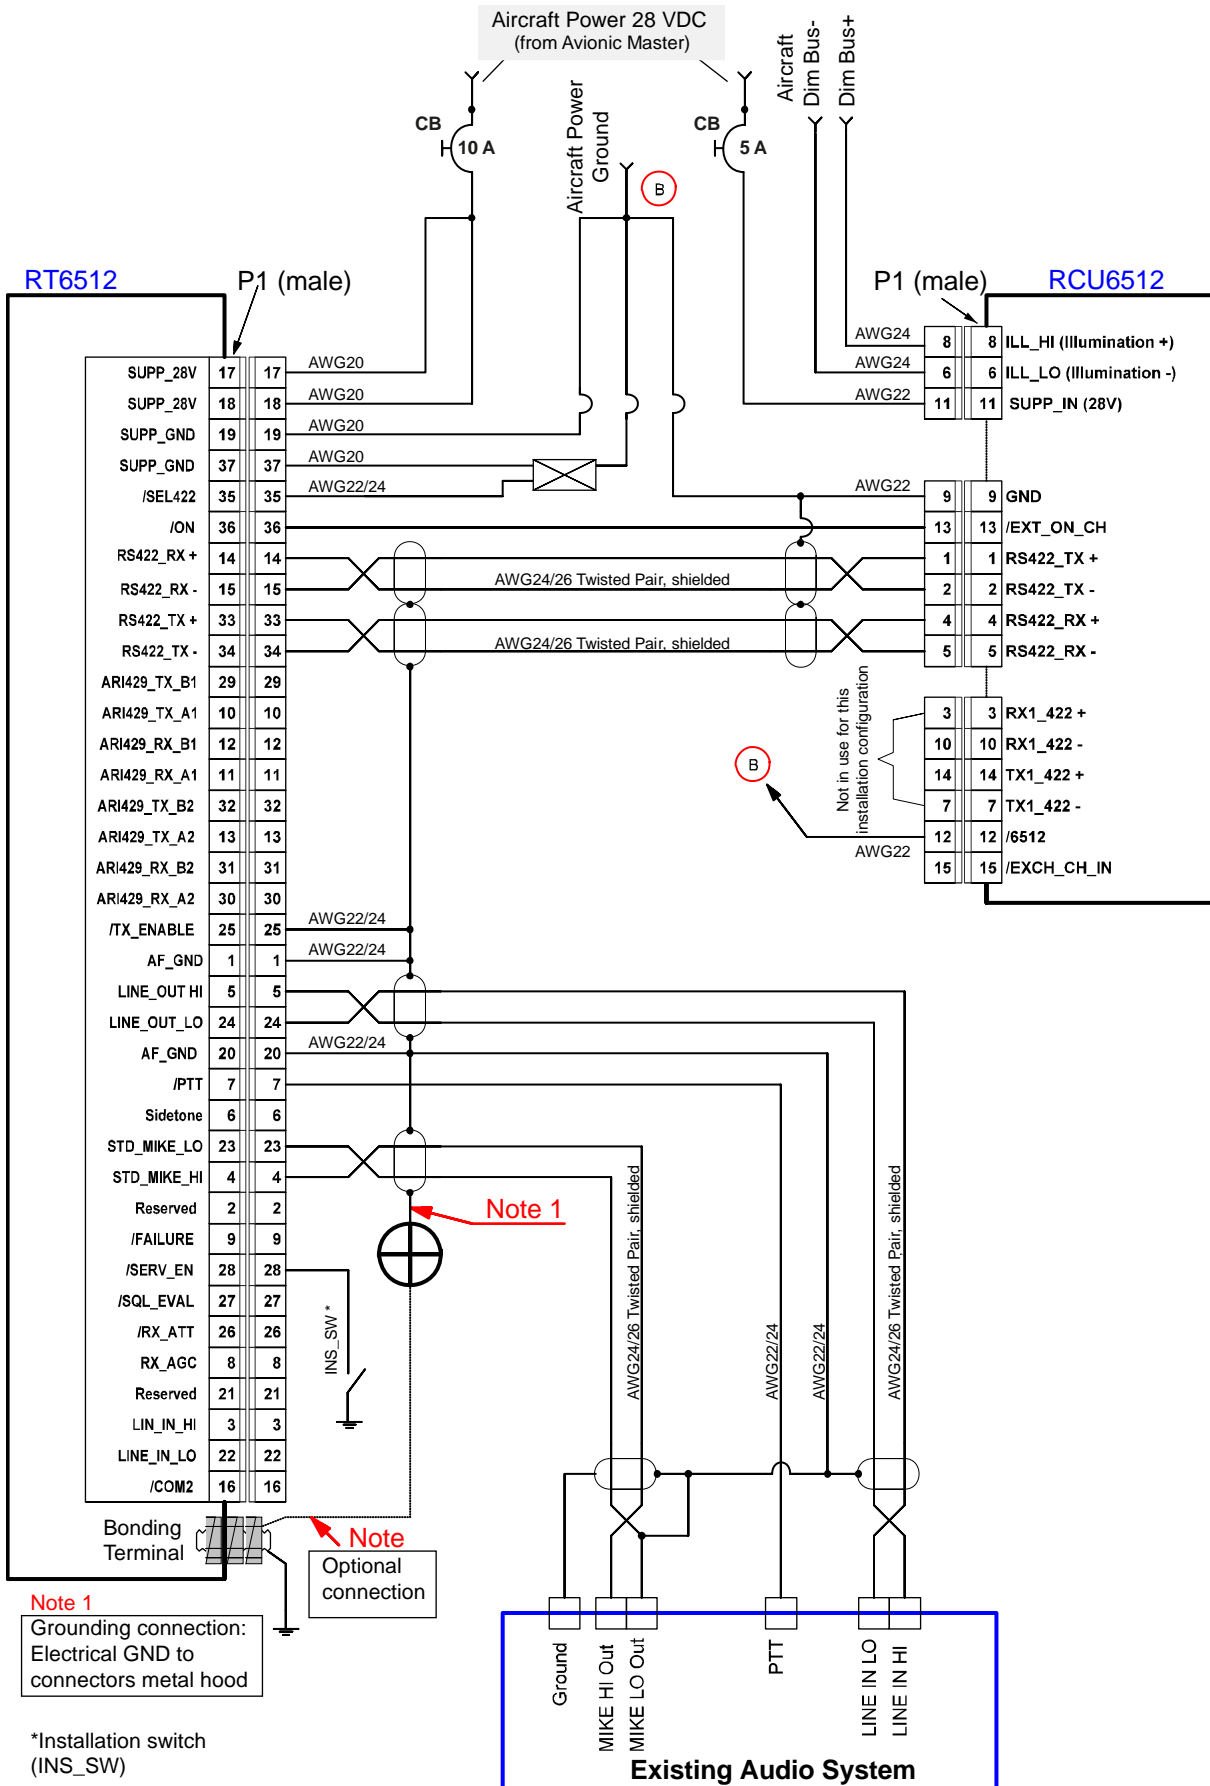

Figure 9: RT6512 with RCU6512 as Primary Controller
* For details see "Figure 9: RT6512 with RCU6512 as Primary Controller", page 34).
* For details see wiring "Figure 9: RT6512 with RCU6512 as Primary Controller", page 34).
<p>Note: Setting of RT6512 parameters are only available when installation switch* (INS_SW) is closed. * For details see wiring "Figure 9: RT6512 with RCU6512 as Primary Controller", page 34).</p>
<p>Figure 20: "RT MOD_LIMIT"</p>	<ul style="list-style-type: none"> • "RT MOD_LIMIT" screen appears. <p>Note: "RT MOD_LIMIT" screen appears only when installation switch* (INS_SW) is closed. * For details see wiring "Figure 9: RT6512 with RCU6512 as Primary Controller", page 34).</p> <ul style="list-style-type: none"> • The "RT MOD_LIMIT" setting allows adjusting audio input sensitivity at proper level. <ul style="list-style-type: none"> ◦ Minimum value of 5 dB correspond to minimum sensitivity (approx. 3 V_{RMS} at MIKE_IN and 6 V_{RMS} at LINE_IN to achieve 70% on modulation) ◦ Maximum value of 31 dB corresponds to maximum sensitivity (100 mV_{RMS} at MIKE_IN and 200 mV_{RMS} at LINE_IN).